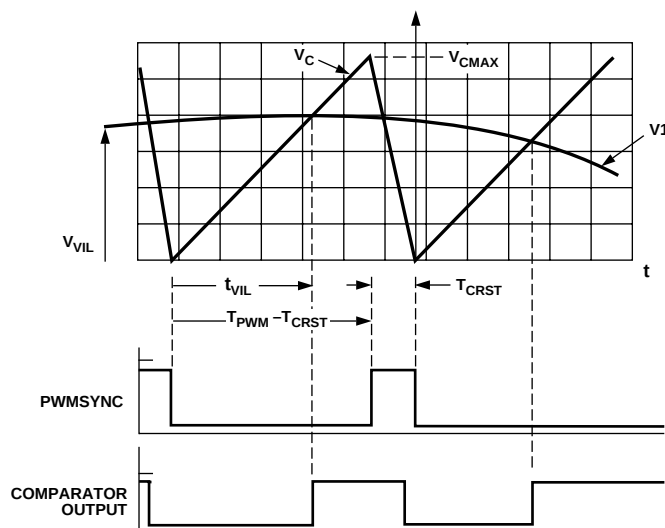
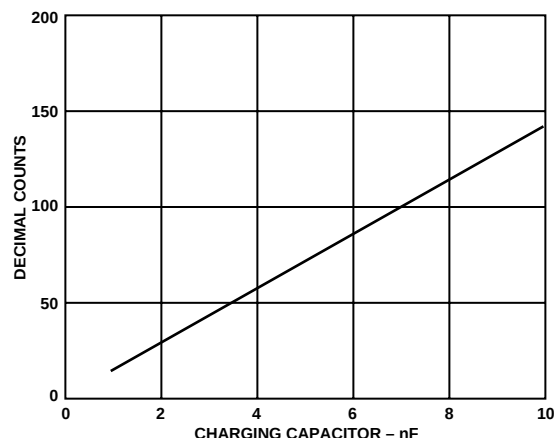

Figure 12. Analog Input Block Operation
Figure 13. PWMSYNCWT Program Value
Comparing each ADC input to a reference ramp voltage, and timing the comparison of the two signals, performs the conversion process. The actual conversion point is the time point intersection of the input voltage and the ramp voltage (VC) as shown in Figure 12. This time is converted to counts by the 12-bit ADC Timer Block and is stored in the ADC registers. The ramp voltage used to perform the conversion is generated by driving a fixed current into an off-chip capacitor, where the capacitor voltage is
Following reset,  $V_C = 0$  at  $t = 0$ . This reset and the start of the conversion process are initiated by the PWMSYNC pulse, as shown in Figure 12. The width of the PWMSYNC pulse is controlled by the PWMSYNCWT register and should be programmed according to Figure 13 to ensure complete resetting. In order to compensate for IC process manufacturing tolerances (and to adjust for capacitor tolerances), the current source of the ADCM328 is software programmable. The software setting of the magnitude of the ICONST current generator is accomplished by selecting one of eight steps over an approximately 20% current range.
2. Program PWMSYNCWT to proper count as in Figure 13.